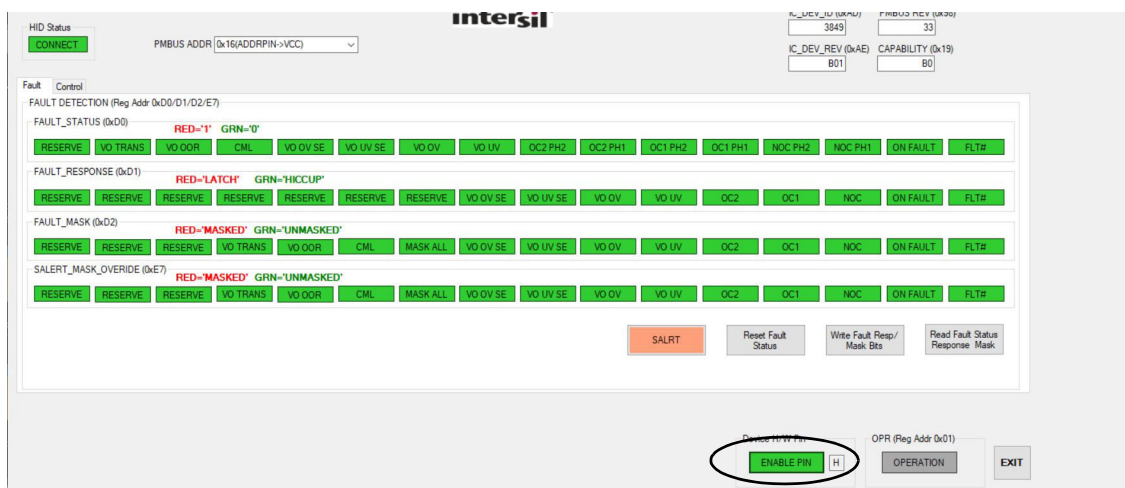

Figure 5. Click the ENBLE PIN Button
13. Enable the ISL73849 with the Device H/W Pin (**ENABLE PIN** button) on the GUI as shown in Figure 5. The board is enabled and is immediately disabled with the PMBus OPERATION bit.